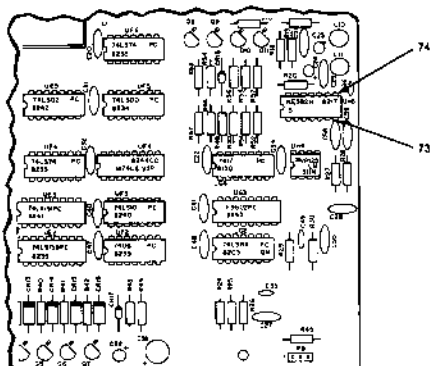
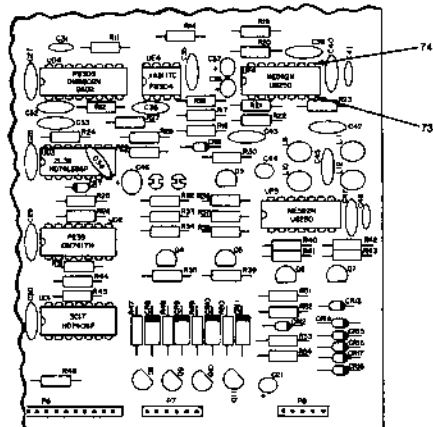

Fig. 3-13. Location of second video amplifier output pins, Model 1540.
Fig. 3-14. Location of second video amplifier output pins, Models 1541 and 1542.
6. Connect the video detector (see Appendix B) to the second video amp. (See Fig. 3-13 for the 1540 or Fig. 3-14 for the 1541 and 1542.) Connect the black lead to pin 7 (item 73) and the red lead to pin 8 (item 74). Connect the other end of the video detector to the voltmeter.